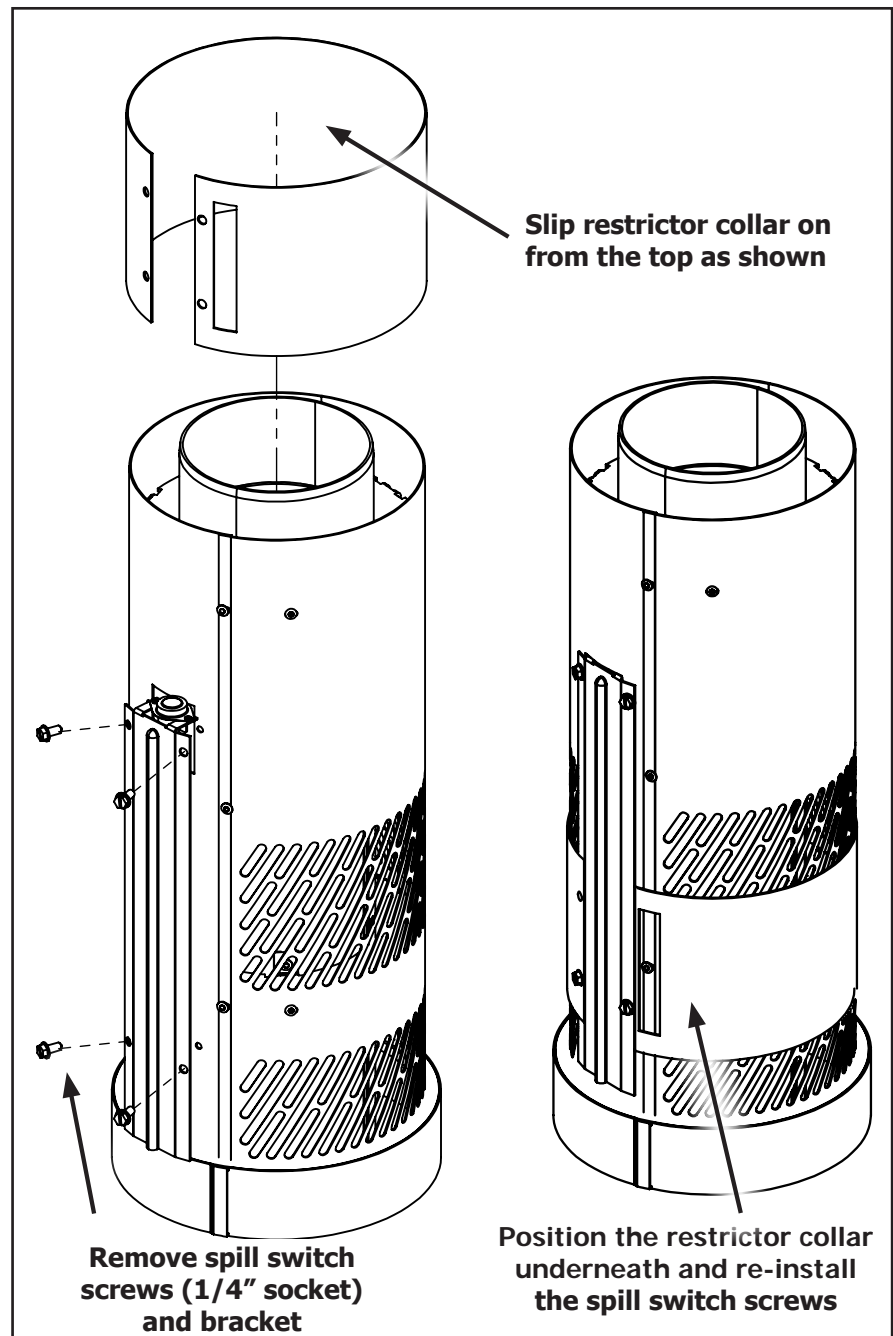

Figure 42: Drafhhood Restrictor Collar
2. Install the supplied restrictor collar onto the Drafhhood Adaptor as instructed below (Figure 42).